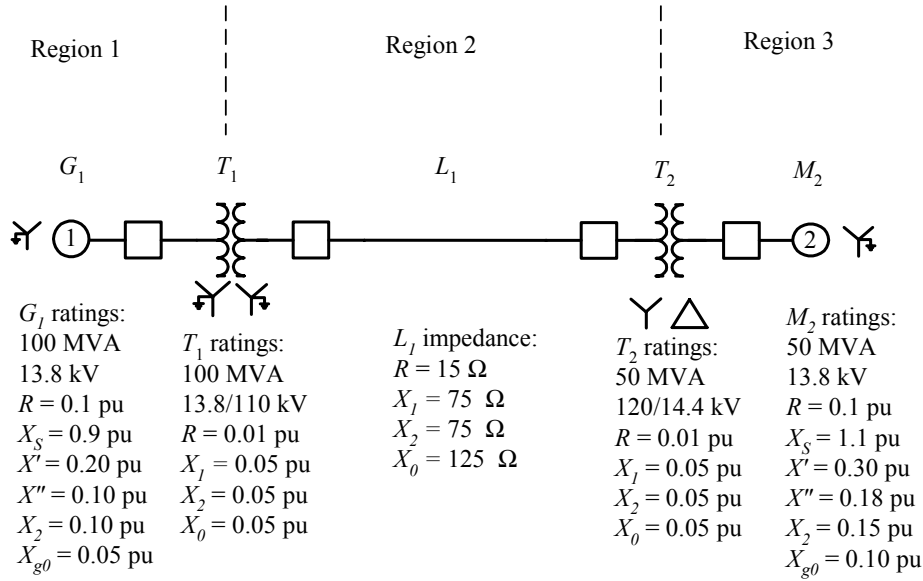

Figure P13-2 One-line diagram of the power system in Problem 13-8.
- 13-8.** Assume that a fault occurs on the high-voltage side of transformer T_2 in the power system shown in Figure P13-2. Make the assumption that the generator is operating at rated voltage, and that the power system is initially unloaded.